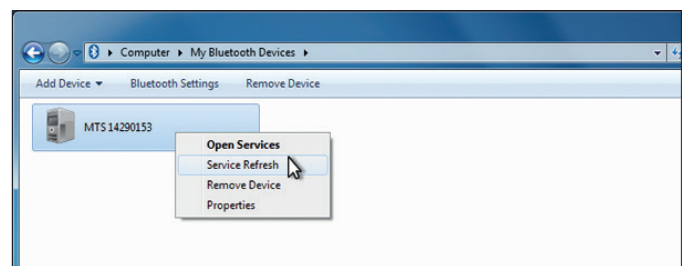

Fig. 5: Open Services
2. Re-start the sensor. Right-click the MTS sensor and select “Service Refresh” (fig. 5).